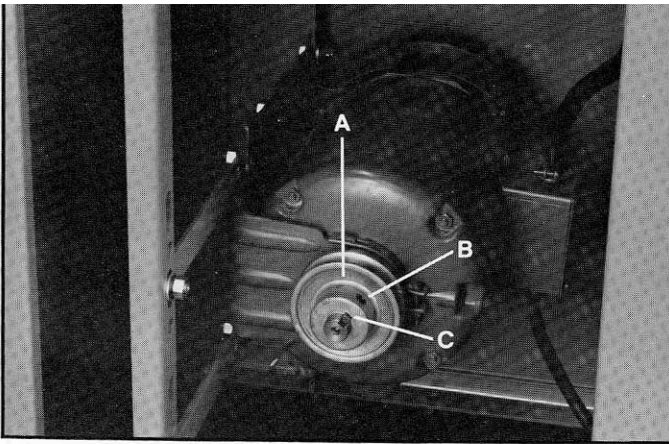

Fig. 3
Assemble motor pulley (A) Fig. 3, to the motor shaft making sure the set screw (B) in the motor pulley engages with the key (C) in the motor shaft.